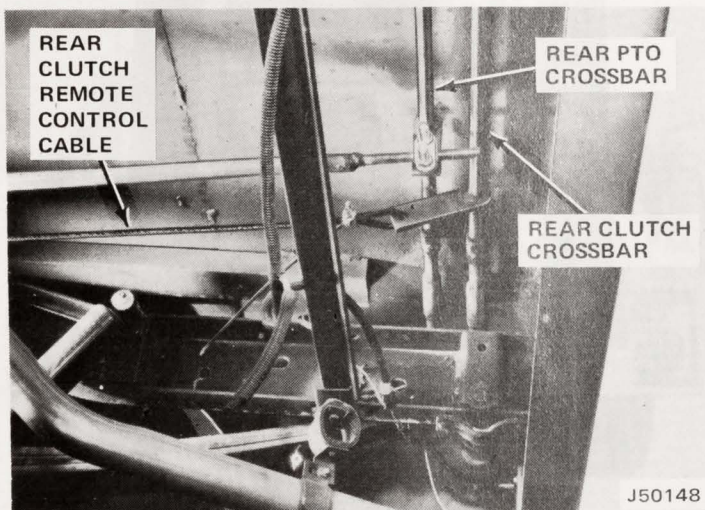

Fig. 10-5 Rear Clutch Cable Installation
- (2) Remove rear clutch remote control cable from front and rear clutch control crossbars (fig. 10-5).